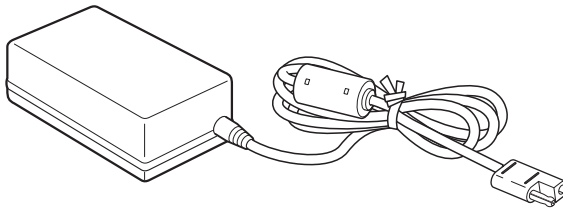

Figure 1-10. Power Supply Unit
The power supply unit (p/n 22-034101-01) charges the internal batteries when connected to a grounded outlet (Figure 1-10). This unit converts the alternating current (AC) normally supplied from an electrical outlet to a direct current (DC) used to charge the batteries and/or power the receiver.